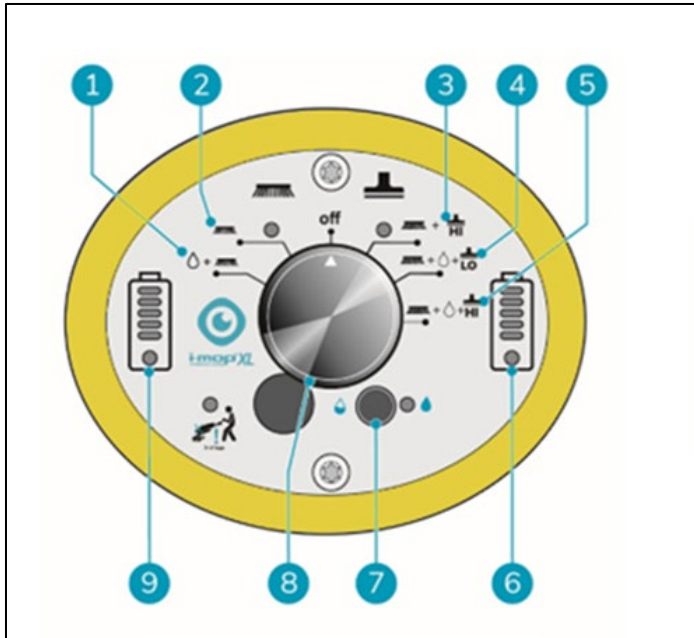

Figure 21
7. Stand behind the SAFE-T-IMOP. Choose your cleaning mode via the main switch (Figure 21, pos 8). This will also turn on the SAFE-T-IMOP.